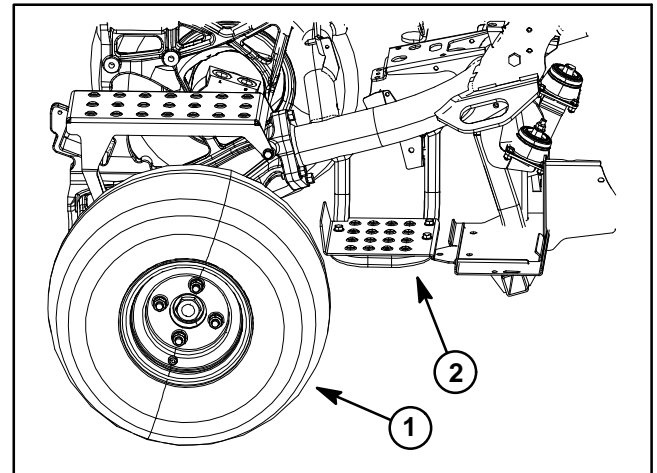

Figure 1
- A. The left side jacking point is the frame channel under the step behind the LH front wheel (Fig. 1).